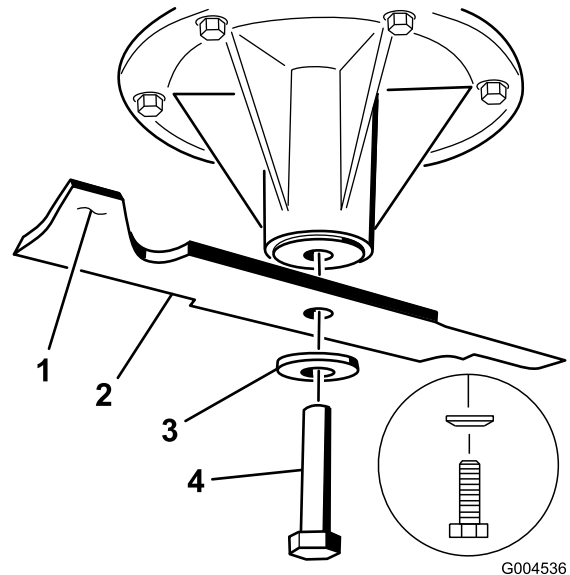

Figure 57
2. For 48 inch mower decks, remove the blade bolt, curved washer, and blade from the spindle shaft (Figure 57).
3. If the blade stays in a horizontal position, the blade is balanced and can be used. If the blade is not balanced, file some metal off the end of the sail area only (Figure 57)
1. Install the blade onto the spindle shaft (Figure 57).
- Important:** The sail part of the blade must be pointing upward, toward the inside of the mower to ensure proper cutting (Figure 57).
2. For 48 inch mower decks, install the blade, curved washer, and blade bolt (Figure 57).